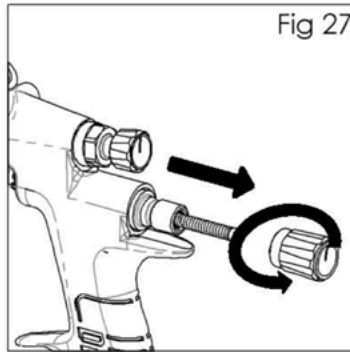

Fig 27
2. Remove fluid adjusting knob (28), spring (25), and spring pad (26). (See fig 27).